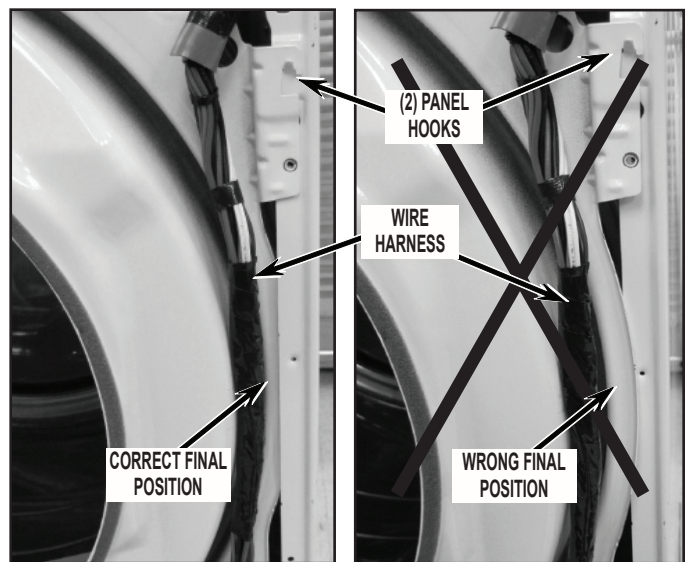

FIGURE 35
- Swing the front bulkhead to the dryer front and reattach the two (2) wire harness clips to the front of the front bulkhead. When re-hanging the front bulkhead to the dryer, make sure the wire harness is not getting pinched and the mid-section of the front bulkhead edge is behind the side panel edge. See *Figure 35* as well as *Figure 13*.